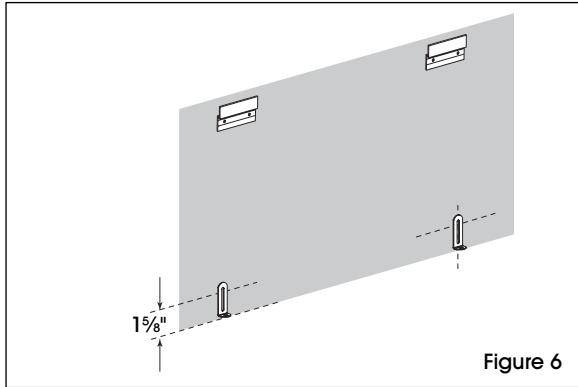

Figure 6
- With board hanging on top brackets, align L-brackets with pre-drilled holes (located on bottom of frame) and mark position. (See Figure 6)